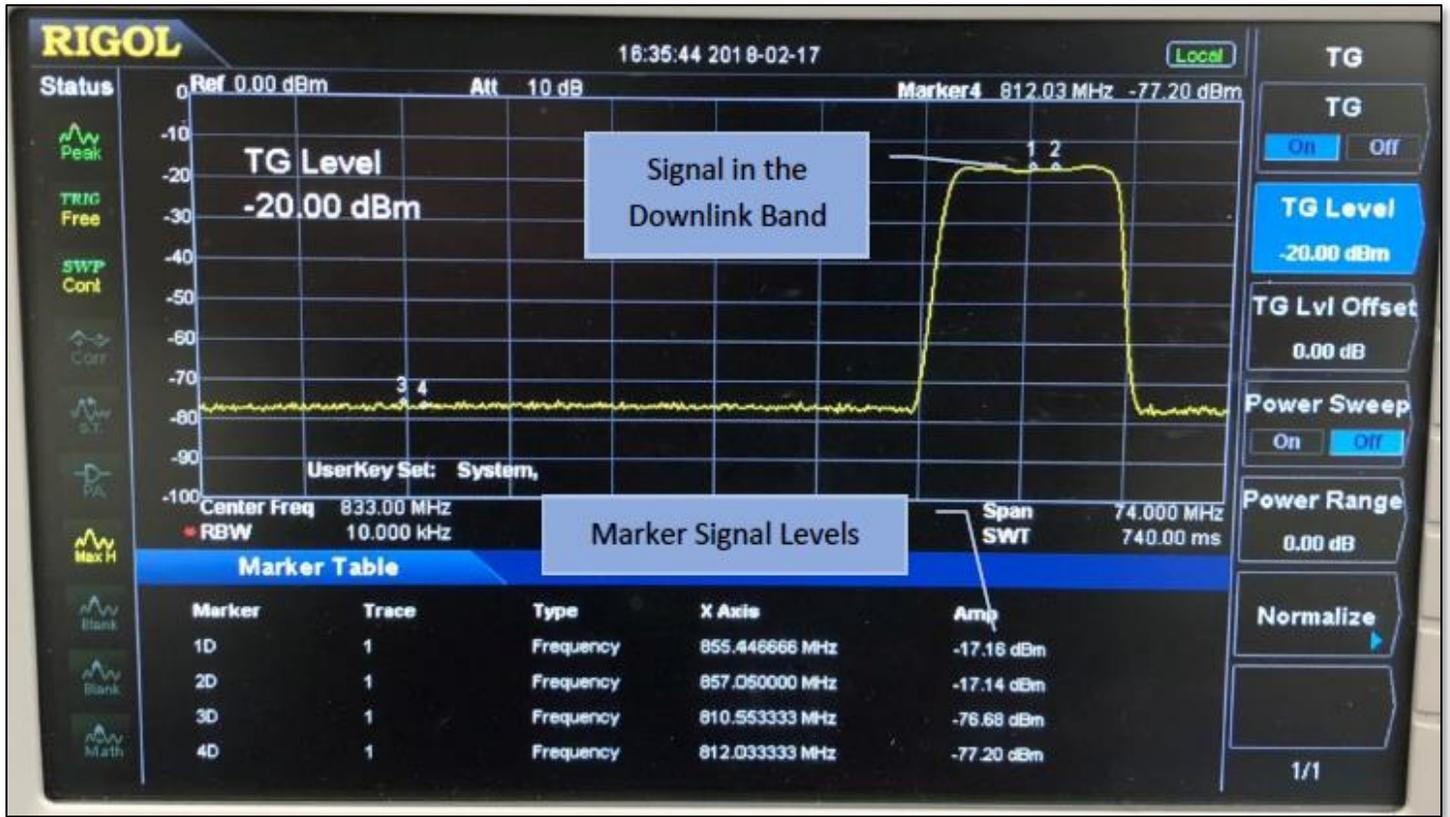

Figure 1.6
9. Use the rotary knob to adjust the Tracking Generator (TG) **-20 dBm**
10. **TG on.** Verify the spectrum analyzer shows a similar display reading (See Figure 1.6).
- (-17.16dBm)	The amp value or signal level of Marker 1D (Figure 1.6)